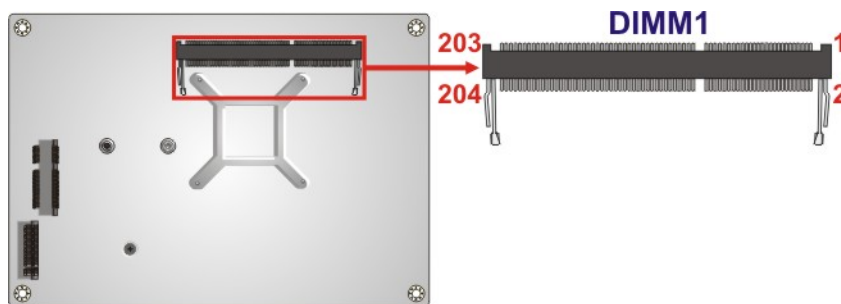

Figure 3-30: SO-DIMM Connector Location
- CN Location:** See **Figure 3-30**